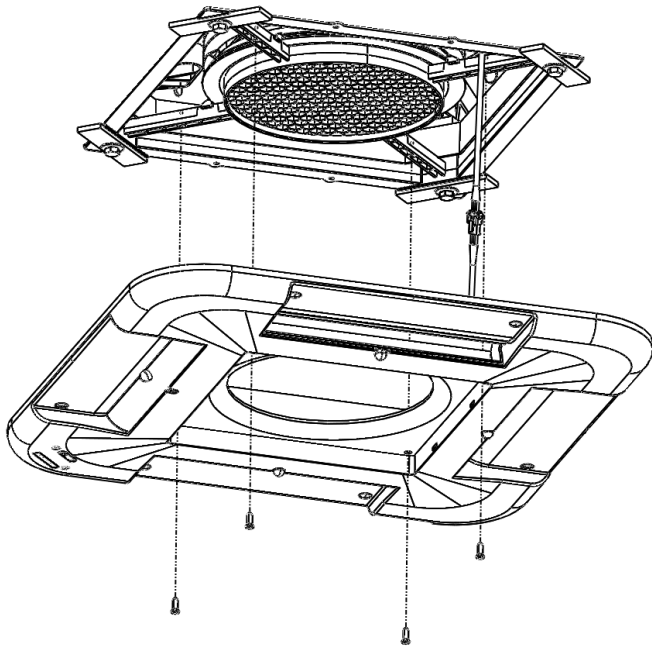

Figure 12 - Connect plenum cover to brace arms with 4 screws
- Raise the plenum and engage the screw into its mating hole on the diagonal arm of the brace. Figure 12